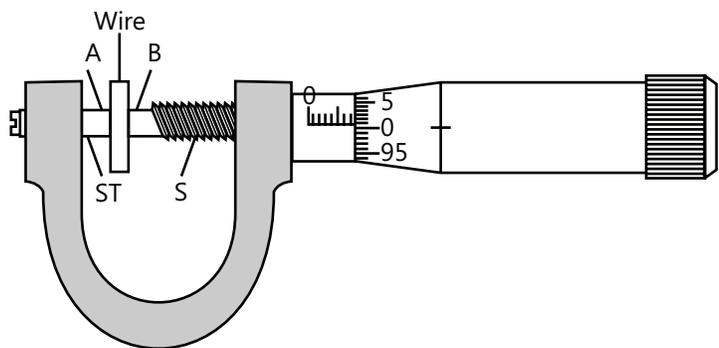

Figure 27.5
**Taking the Linear Scale Reading:** The mark on the linear scale which lies close to the left edge of the circular scale is the linear scale reading. For example, the linear scale reading as shown in the Fig 27.5.
**Taking Circular Scale Reading:** The division of circular scale which coincides with the main scale line is the reading of circular scale. For example, in the adjacent Fig 27.5, the circular scale reading is 2.